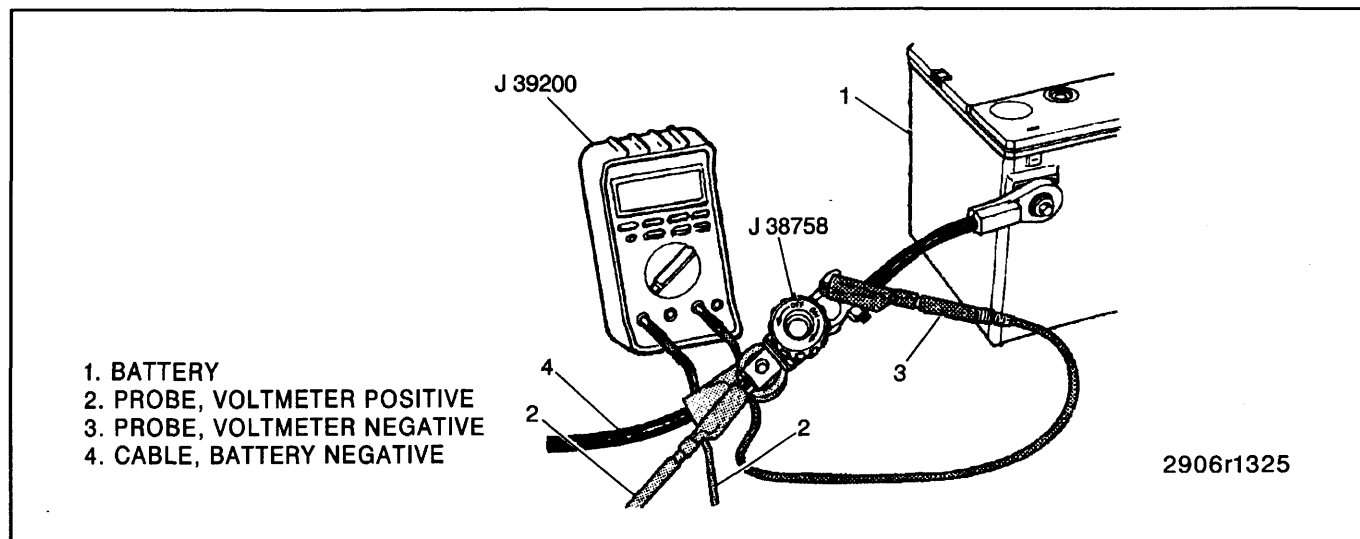

Figure 8—Parasitic Draw Test Switch Installed
2. Install the male end of J 38758 to the negative battery terminal (figure 8).